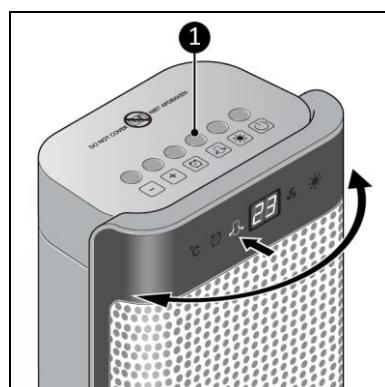

Figure 9
1. Press the oscillation button on the device (Figure 9, pos. 1) or on the remote control. The oscillating indicator light comes on. The unit rotates from left to right at a 90° angle.